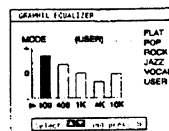

Fig. 34.
- 1 Select Sound Control in the main menu, then select Graphic Equalizer using Δ + or ∇ - and press OK. The GRAPHIC EQUALIZER menu appears (see Fig. 34).